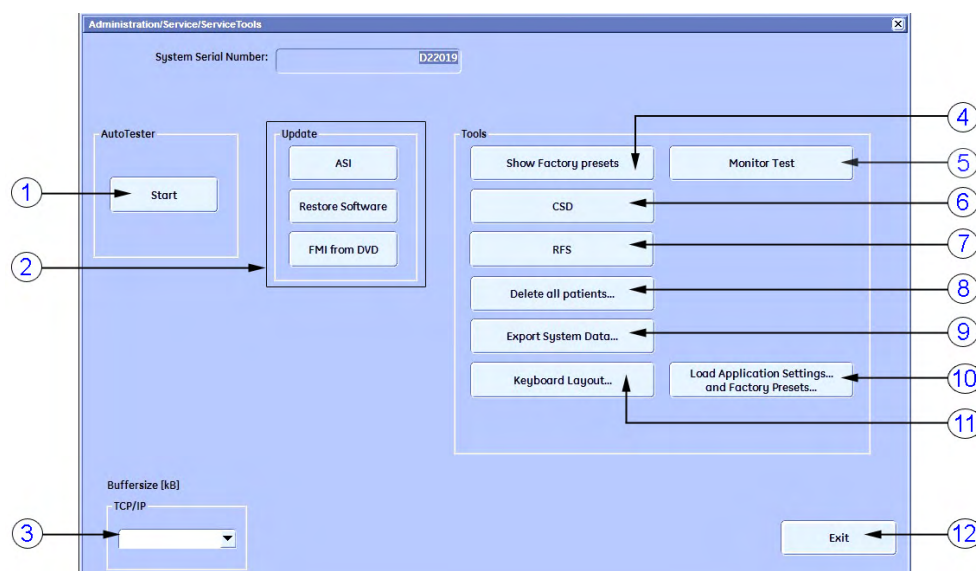

Figure 5-20 Service Tools page
5. Enter the password <SHE> and click the **Accept** button to display the Service Tools page (see Figure 5-20 on page 5-42).
4. Enter the password <SHE> and click the **Accept** button to display the Service Tools page (see Figure 5-20 on page 5-42).
1. Click the **Load Application Settings and Factory Presets** button on the “Service Tools” page (see Figure 5-20 on page 5-42).